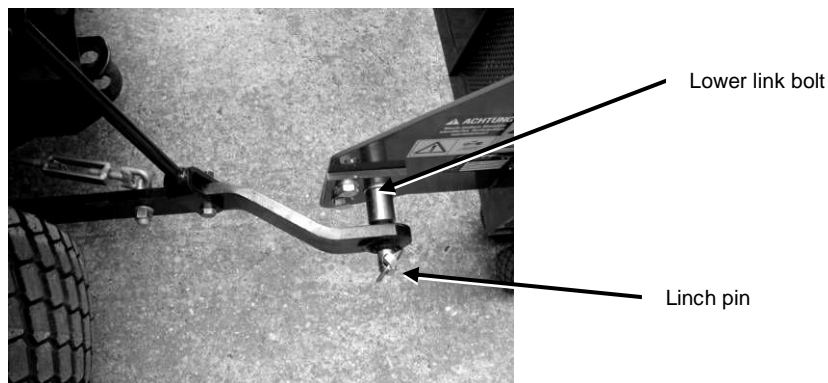

Fig. 32: Lower link bolt on the CLS
3. Remove the linch pin on the lower link bolt (see Fig. 32).